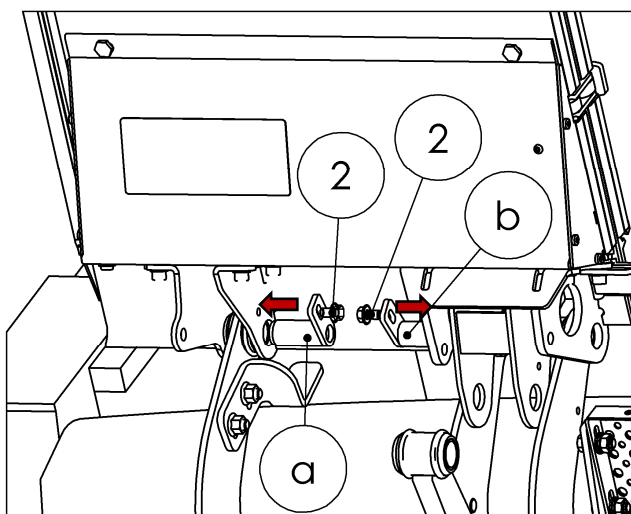

Fig. 53
**IMPORTANT:** Note the direction of insertion (see Fig. 53).
- Mount the bolts from the accessories kit (2) to secure the pins and tighten them to 70 Nm.